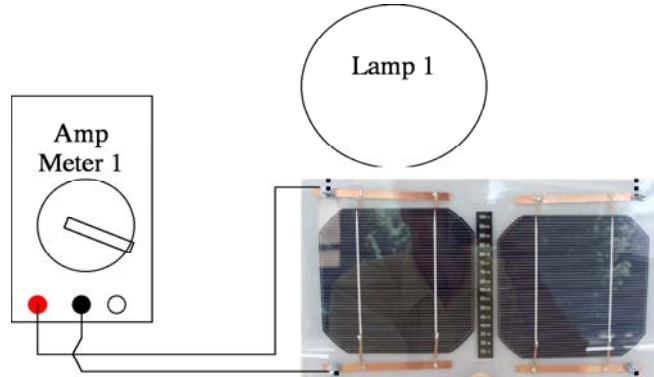

Fig. 4.1: Measuring current from a solar cell.
1. Connect one cell and current meter to measure the short circuit current of the cell (see Fig. 4.1). Be sure to keep the light source at a constant distance throughout the measurements.